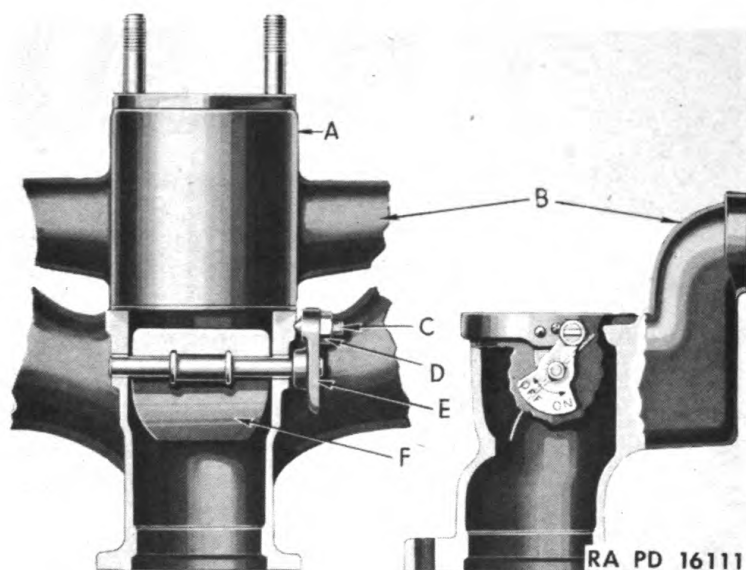

Figure 142—Manifold Heat Control
b. **Manifold Heat Control Valve.** The most important adjustments in connection with maintaining proper manifold temperatures consist of setting the manifold heat control valve for seasonal operation. The manifold heat control valve as shown in Fig. 142 consists of a lever and butterfly valve located in exhaust manifold. This butterfly valve directs and controls the volume of hot exhaust gases through the heat
c. Manifold Heat Control Adjustments (Fig. 142). During normal operation in cold weather, valve should be open in "ON" position. Operations during cold weather with heavy loads, at high speeds, or on rough terrain, valve should be in "MEDIUM" position. This position should also be used during mild weather operation with small loads and low speeds. For warm weather, or during mild weather with heavy loads at high speeds, valve should be closed in "OFF" position. Adjust in following manner:
(1) Loosen lock nut. Loosen set screw. Move lever to desired position. Tighten screw into recess in manifold and tighten lock nut.